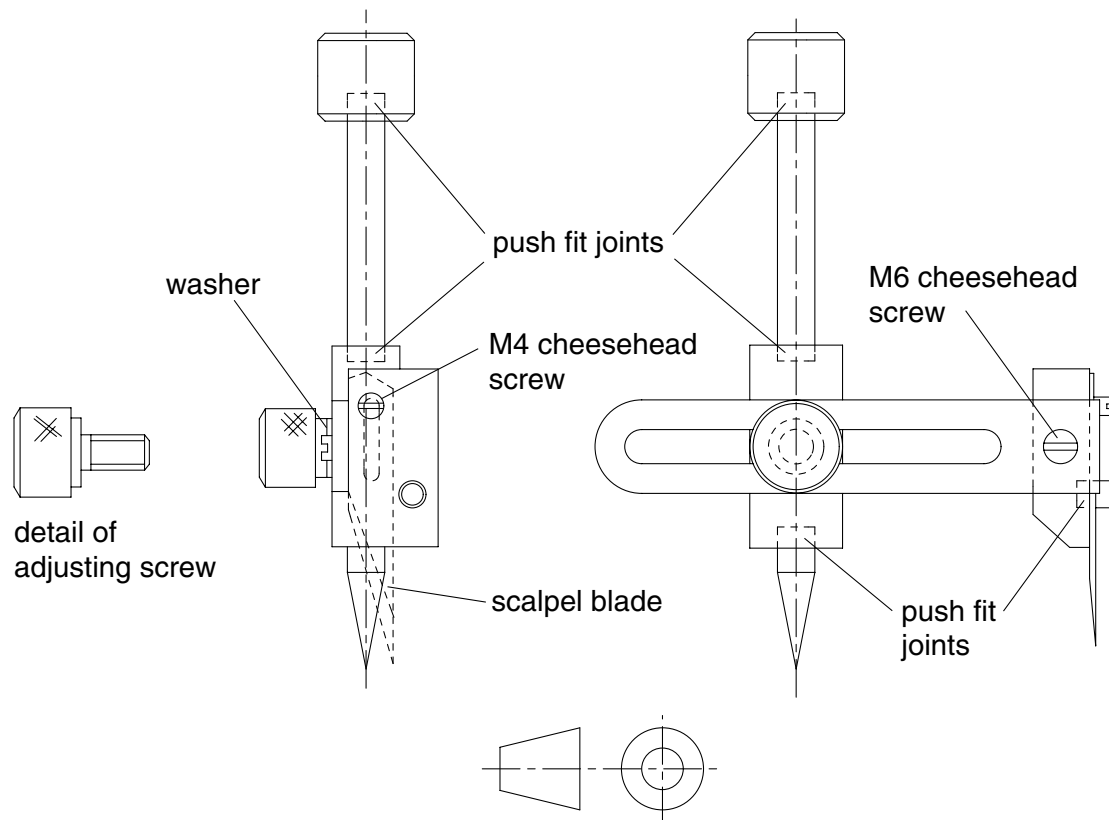

**Fig. 6**
6 Fig. 6 shows two resistors in parallel.
- (a) Calculate the total resistance of the arrangement shown in Fig. 6. [3]